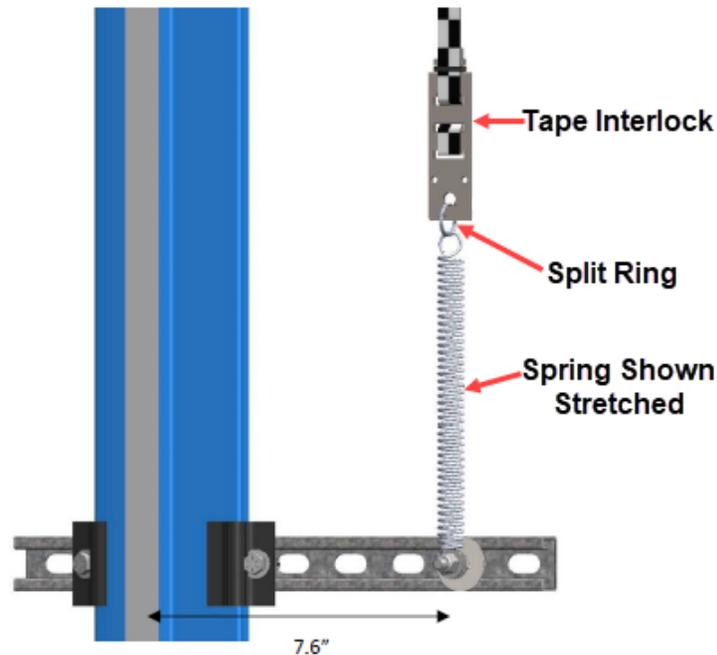

Figure 17: Lower Tape Mount Assembly
3. Position the Lower Tape Mount Assembly 7.6" from the surface of the guide rail to the center of the 3/8" bolt. See Figure 17.
6. Connect the spring to the tape interlock bracket using the split ring. See Figure 17.